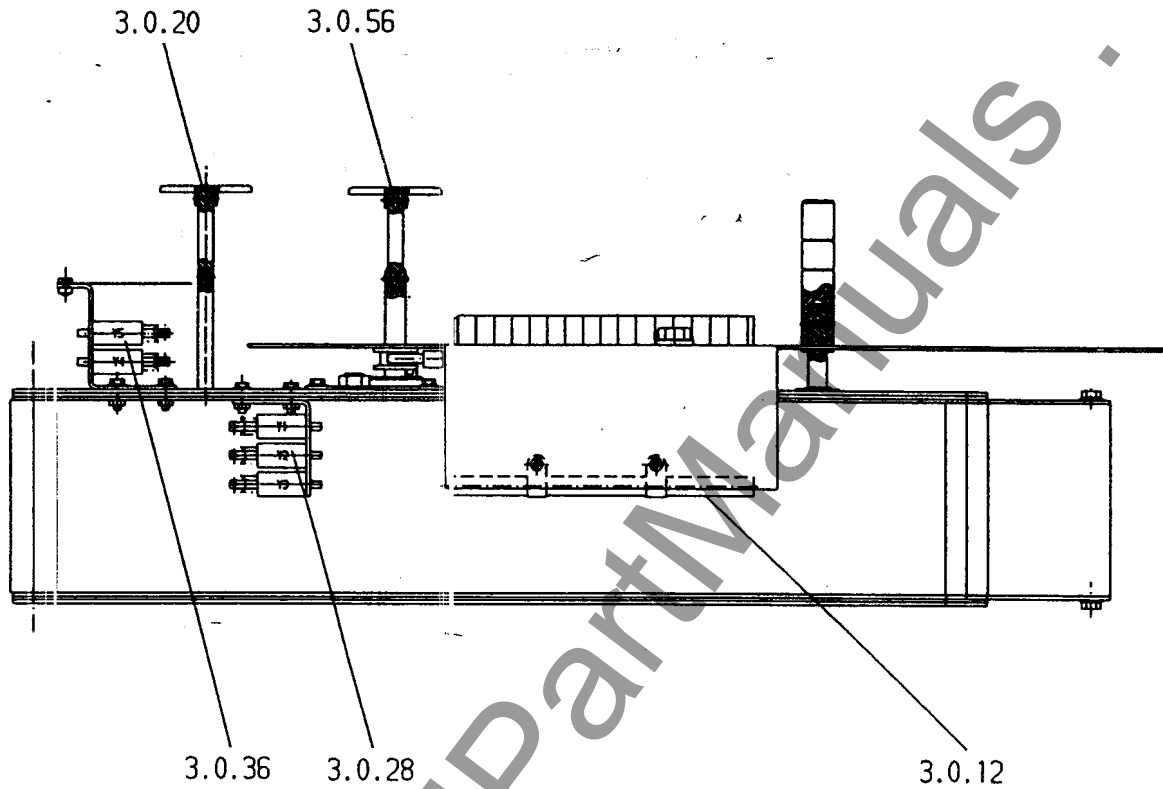

Fig. B4: Accessories - Side view
a) Shunt opening release (3.0.28) (fig. B4)
b) Shunt closing release (3.0.36) (fig. B4)
d) Anti-condensation heater (3.0.12) (fig. B4)